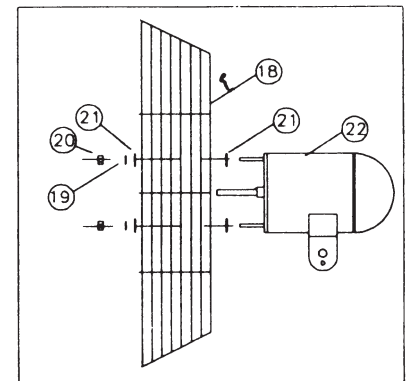

FIGURE 3
- Mount the rear guard (18) to the motor studs using flat washers (21), lock washer (19), and hex nuts (20). Note that one flat washer must be placed on each motor stud before the guard is mounted. See figure 3.